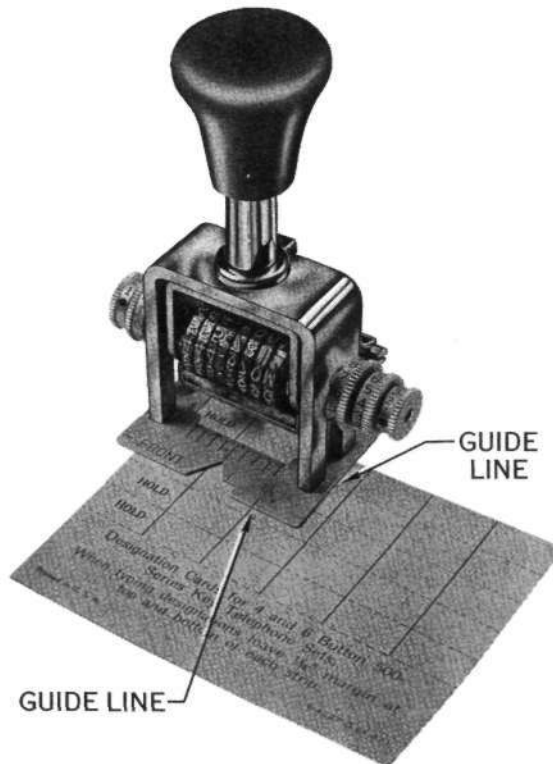

Fig. 10 - Aligning Guide Lines (Designation Cards for 4- and 6-Button Sets)
- (1) Set number in machine using wheels 4, 5, 6, and 7.
- (2) Align guide lines as shown in Fig. 10.
- (3) Print number.